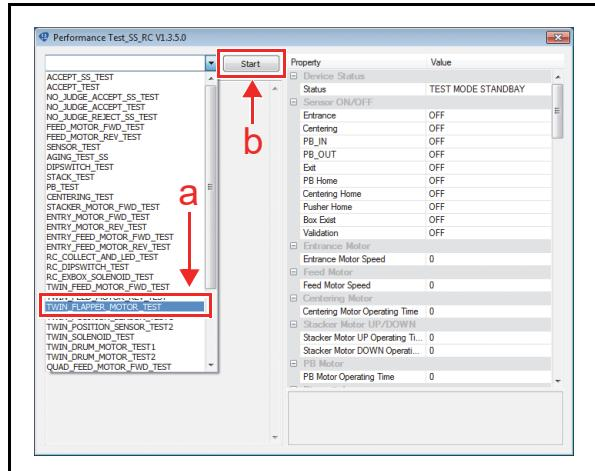

**Figure 6-40** Feed Motor Speed Reverse Rotation Test (RT Transport) 2
5. The measured speed will appear in the “RC-Feed Motor (RC-Twin)” area (Figure 6-40 a) on the Screen.
7. Click the “Stop” Screen Button (Figure 6-40 b) to end the test.